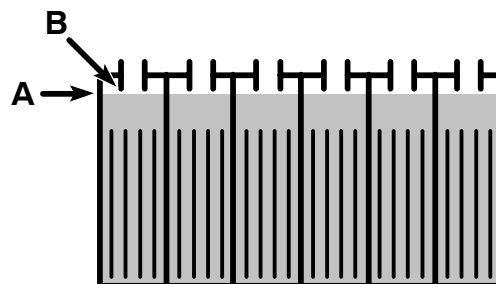

FIG. 32
- Lead Acid Batteries: After charging, check the electrolyte level (A) again. The level should be approximately 1 cm from the bottom of the fill-port (B) (Figure 32). Add distilled water if needed. DO NOT OVERFILL.